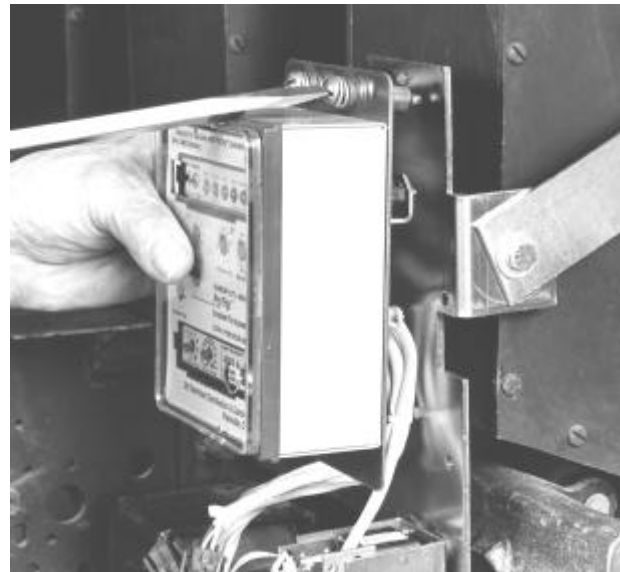

Figure 13. Mounting the trip unit on the breaker.
4. Place the trip unit and mounting plate in position on the support bracket mounted to the breaker. Secure with the screws in the mounting plate into the tapped holes in the bracket, as shown in Figure 13.